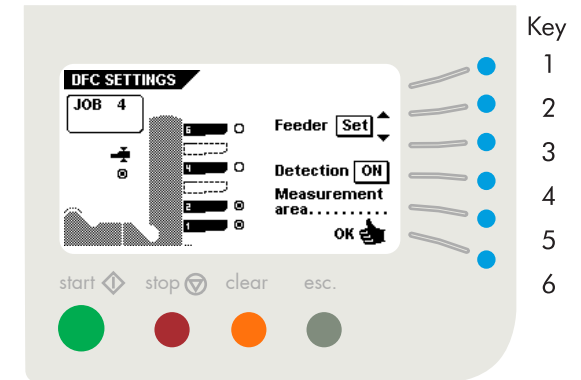

Fig. 48
When the “DFC settings” menu is selected and confirmed (key 6) in the “job settings” menu, the display shows the screen as shown in fig. 48. This menu shows the following functions:
- select the required feeder and/or the document set on the inserter (key 2 or 3).
- set the Double Feed Control/thickness detection on or off (key 4).
- set the thickness detection measurement area (key 5).
- confirm the settings by pressing “OK” (key 6) which will get you back to the “job settings” menu.